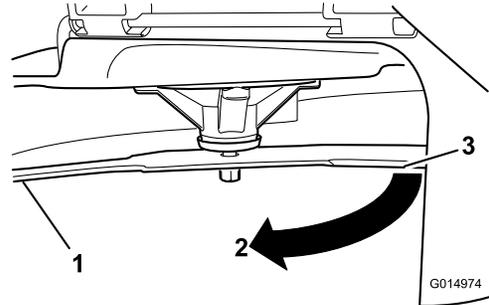

Figure 104
4. Rotate the same blade 180 degrees so that the opposing cutting edge is now in the same position (Figure 104).